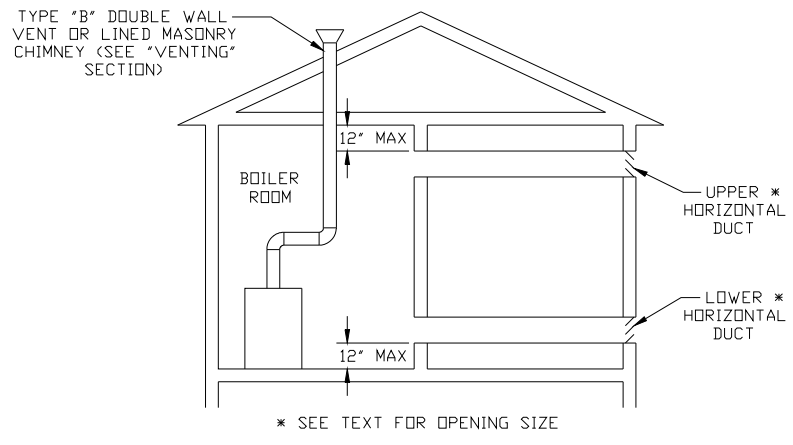

Figure 19: All Air From Outdoors, Using Horizontal Ducts Into The Boiler Room
- c. **Horizontal ducts** to the outdoors (Figure 19) require a minimum free area of 1 square inch per 2,000 Btu per hour input of all fuel burning appliances in the boiler room space but not less than 100 square inches. The cross-sectional area of the duct shall be the same as the required free area opening. The minimum opening size is 3 inches.